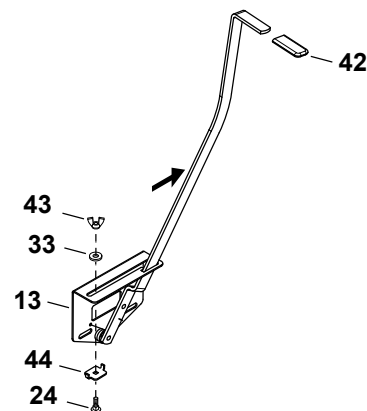

Figure 8
STEP 8: (SEE FIGURE 8)
- Install the grip (42) onto the flow control arm.
- Assemble the adjustable stop (44) to the flow control bracket using the 1/4" x 3/4" carriage bolt (24), nylon washer (33) and wing nut (43).